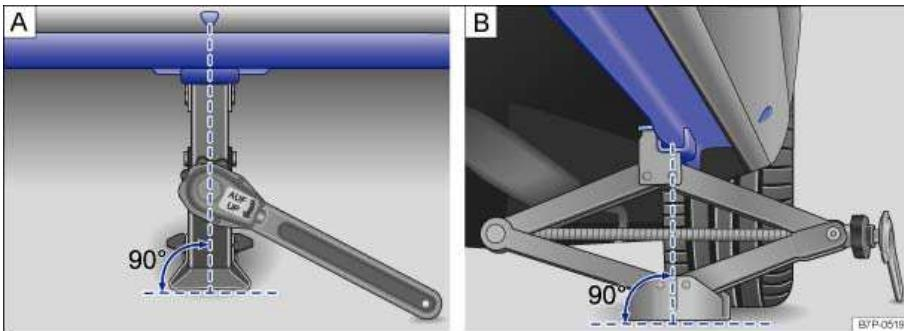

Fig. 341 Jack in position at the left rear lift point.
11. Position the jack so that its base is directly underneath the lift point ⇒ fig. 341, making sure that the entire base of the jack rests securely on the ground.
12. Align the jack and wind up the jack claw at the same time, until the claw cradles the rib underneath the vehicle ⇒ fig. 341 A or B.
- Position the jack only at the described vehicle lift points. Before you raise your vehicle, always make sure the jack claw properly grips the rib under the sill so that the jack does not slip off when you are raising the vehicle ⇒ fig. 341.